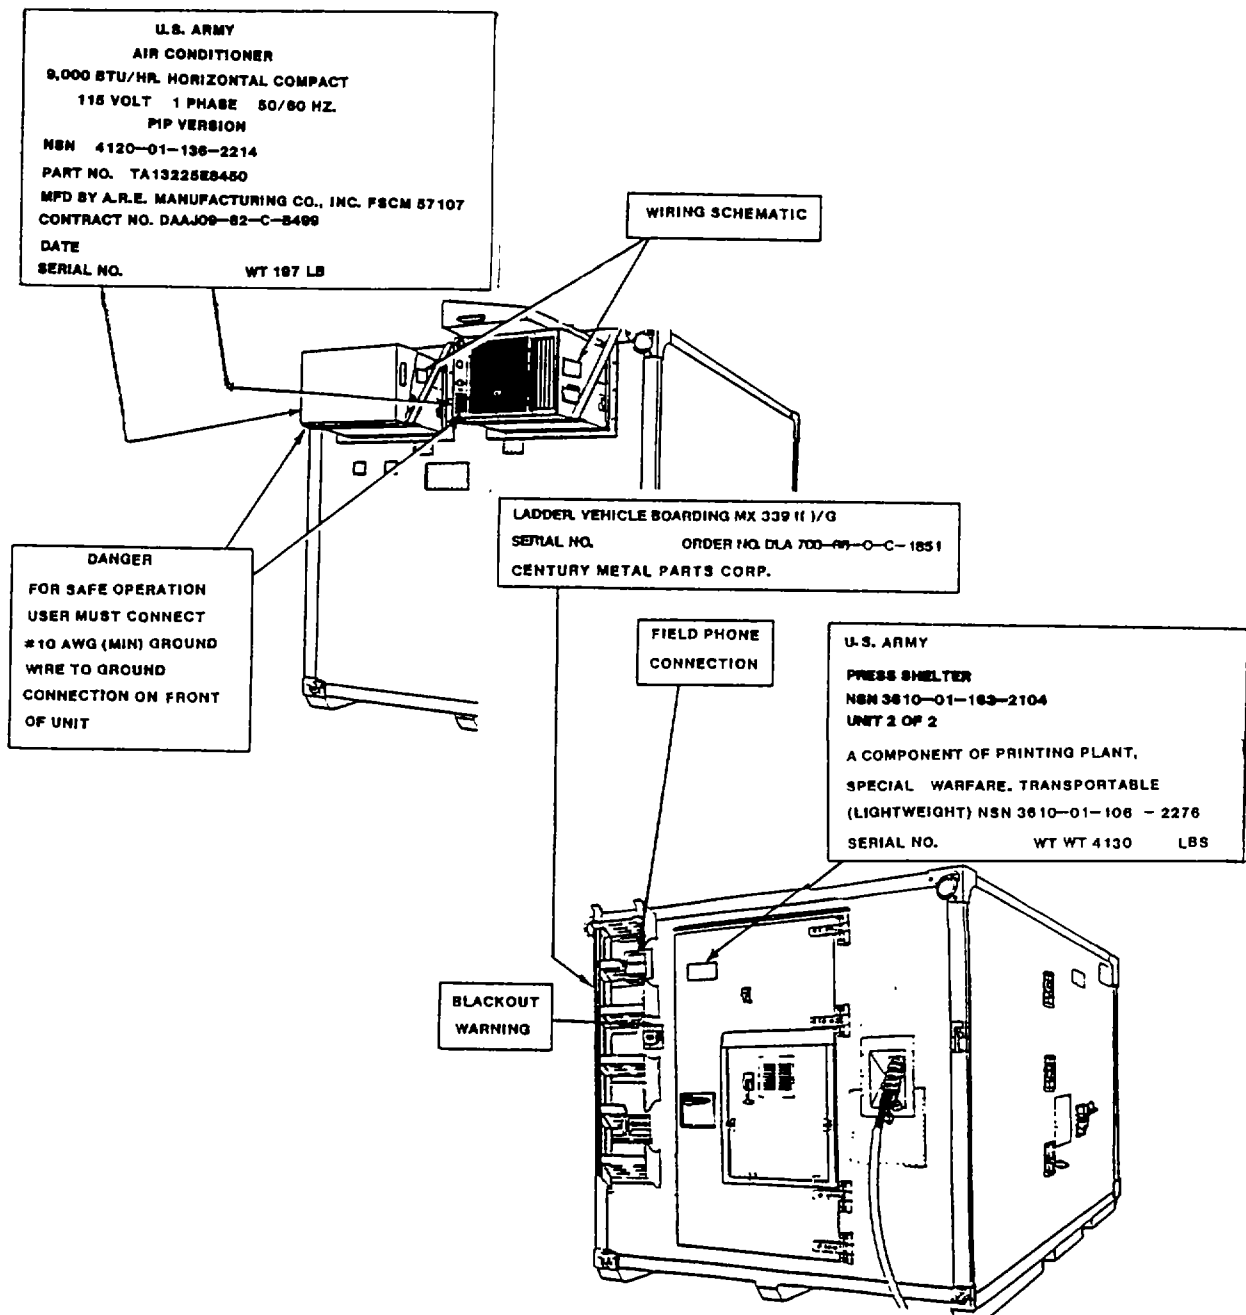

Figure 2-7. Exterior Decals and Data Plates
b. Exterior Decals and Data Plates. Figure 2-7 identifies exterior decals and data plates.